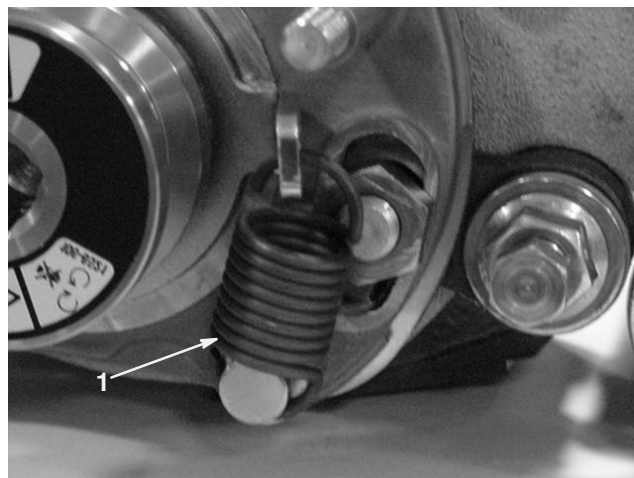

Figure 17
33. Rotate the idler pulley until shift lever spring can be hooked into the hole in the pulley bracket and onto the stud as shown in figure 17.